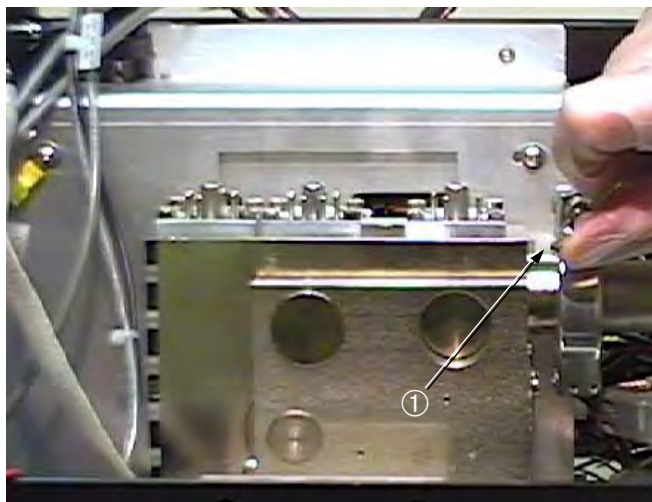

Figure 4-5 KF-25 Quick Clamp
7. Remove the KF-25 (ISO NW-25) quick clamp ① to disconnect the spectrometer tube from the 979 vacuum system (Figure 4-5).